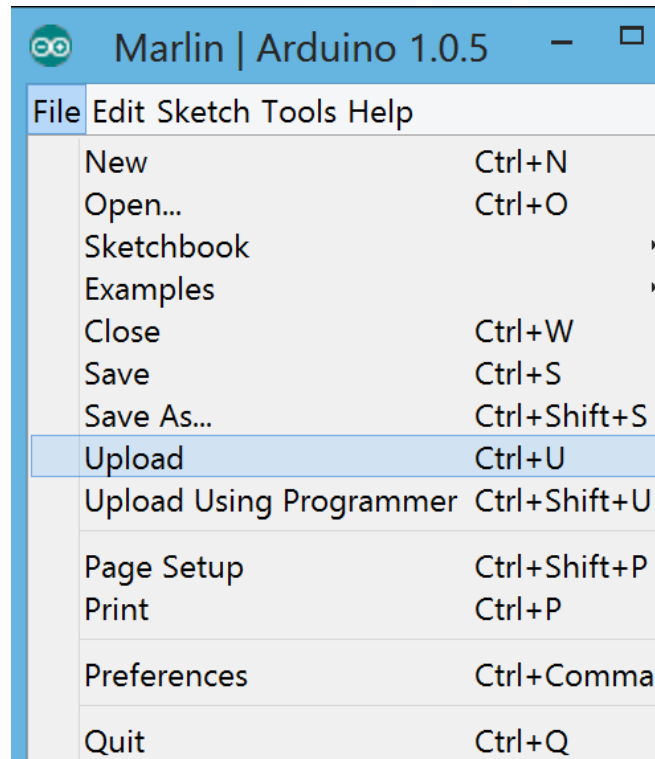

Figure 2.17: Upload the Artifex 2 firmware
- Select “File → Upload” to upload the Artifex 2 firmware to its electronics (Figure 2.17). Before uploading, the Arduino IDE will first compile the firmware files. The progress of compiling and uploading is shown in the bottom status window.